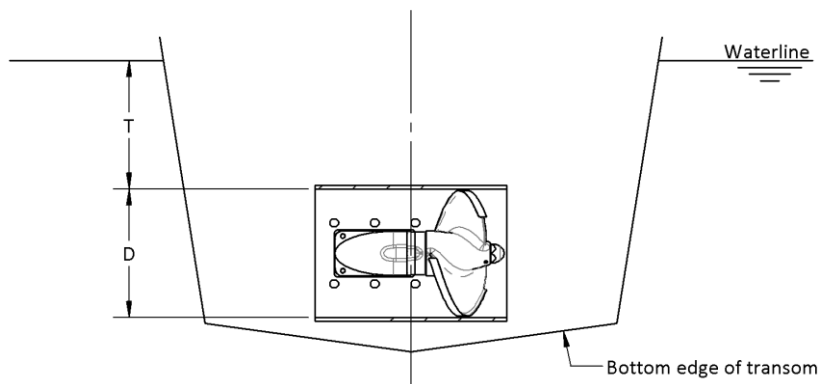

Figure 6 – Transom mounted thruster submersion recommendation
- Insufficient submersion can cause air to be sucked into the thruster tube which can result in excessive noise and vibration, decreased thrust, and damage to the thruster. The top of the tube should be at least one tunnel diameter deep from the *lightest* waterline (i.e., T should be greater than D in Figure 6). For vessels operating in open seas an allowance for pitch, roll, and wave action should be added to the minimum submersion recommendation.